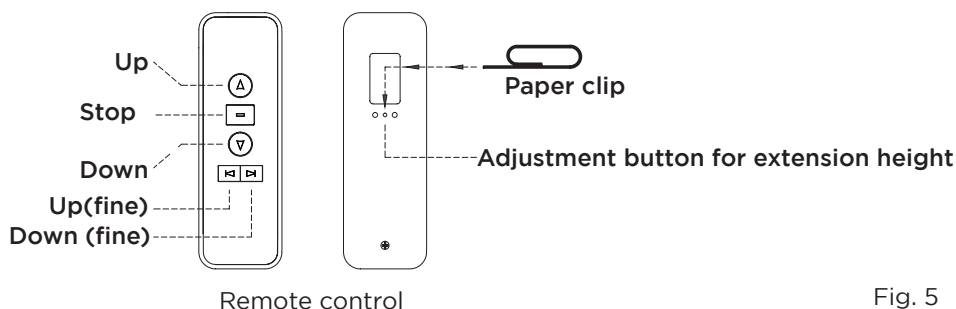

Fig. 5
- Using an open paper clip, press the position adjustment button on the back of the radio remote control (Fig. 5) until it emits a light. The screen is now in programming mode.